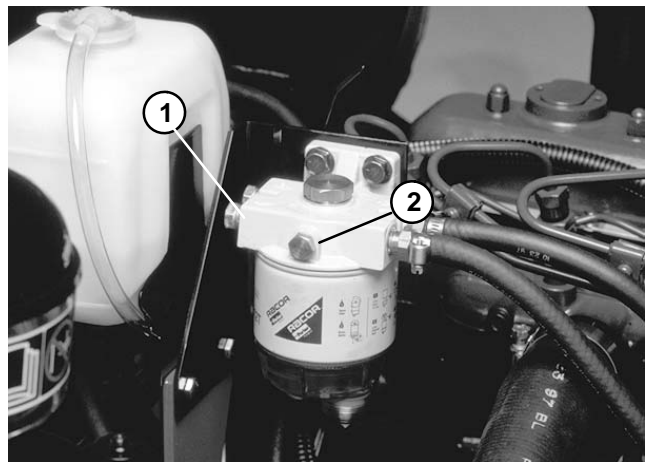

Figure 8
3. Loosen air bleed screw on the top of the fuel filter/water separator (Fig. 8).